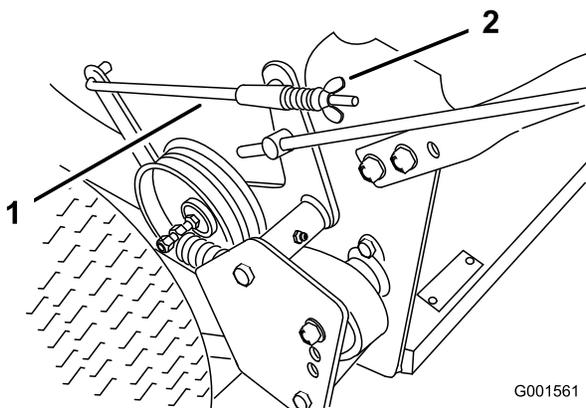

Figure 36
3. To adjust the brakes, rotate the wing nuts on the brake rods (Figure 36). Rotate the wing nuts clockwise to tighten the brakes; rotate them counterclockwise to loosen them.